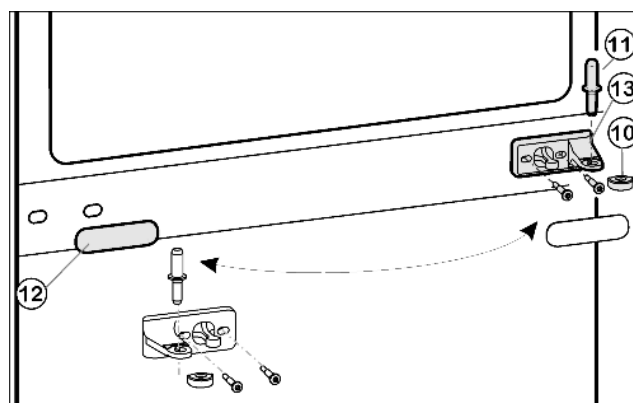
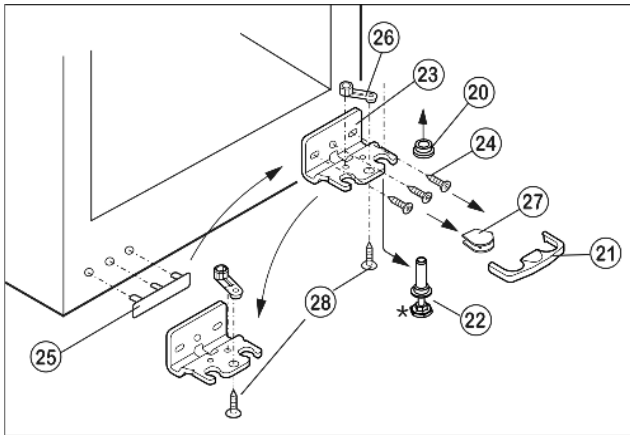

Fig. 5
Fig. 6
- ▶ Draw the middle bearing pin *Fig. 5 (11)* out of the turn hinge and lower door.
- ▶ Remove the plastic cap *Fig. 5 (10)*.
- ▶ Detach the middle turn hinge *Fig. 5 (13)*.
- ▶ Carefully detach the cover panel *Fig. 5 (12)*.
- ▶ Turn the middle turn hinge *Fig. 5 (13)* through 180° and screw it firmly into place on the new hinge side (**with 4 Nm**).
- ▶ Turn the cover panel *Fig. 5 (12)* through 180° and snap it into place again on the new handle side.
- ▶ Draw the safety lock Fig. 6 (21).
- ▶ Remove the cover Fig. 6 (27).*
- ▶ Fully retract the adjustable-height foot Fig. 6 (22).
- ▶ Pull out the bearing pin Fig. 6 (22) downwards and forwards. In so doing, pay attention to the hinge bush Fig. 6 (20).
- ▶ Unscrew the turn hinge Fig. 6 (23) (3 Torx 25) Fig. 6 (24).
- ▶ Unscrew the bearing part Fig. 6 (26) (1 Torx 25), Fig. 6 (28).
- ▶ Carefully lift off and transfer the cover Fig. 6 (25) on the handle side.
- ▶ Screw the turn hinge Fig. 6 (23) firmly into place on the new hinge side, possibly using a cordless screwdriver (**with 4 Nm**).
- ▶ Place the cover Fig. 6 (27) on the opposite side.*
- ▶ The safety lock (21) has to engage with the turn hinge at the side so that the bearing pin and therefore the door are secured.
- ▶ Snap the safety lock (21) onto the turn hinge again.
- ▶ Put on the hinge bush Fig. 6 (20).
- ▶ Place the lower door from above onto the lower bearing pin Fig. 6 (22).
- ▶ Place the plastic cap Fig. 5 (10) back onto the middle turn hinge Fig. 5 (13).
- ▶ Place the middle bearing pin Fig. 5 (11) in the lower door, on the new hinge side, through the middle turn hinge Fig. 5 (13).
- ▶ Place the upper door on the middle bearing pin Fig. 5 (11).
- ▶ If necessary, align the doors to the appliance housing by way of the two oblong holes in the lower turn hinge Fig. 6 (23) and middle turn hinge Fig. 5 (13). To do so, unscrew the middle screw in the lower turn hinge Fig. 6 (23).